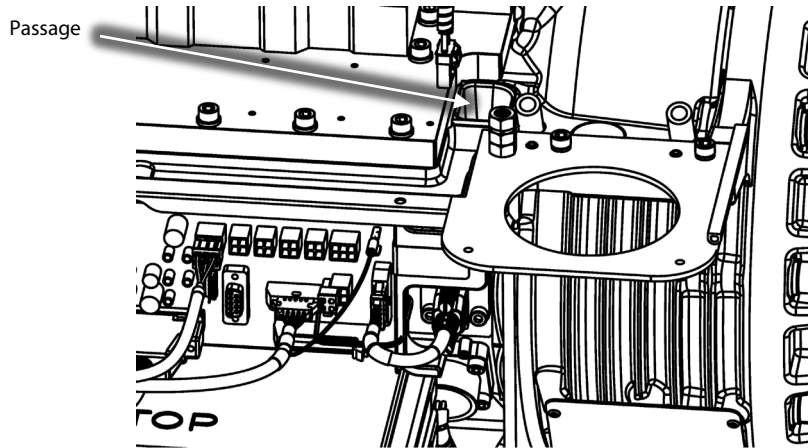
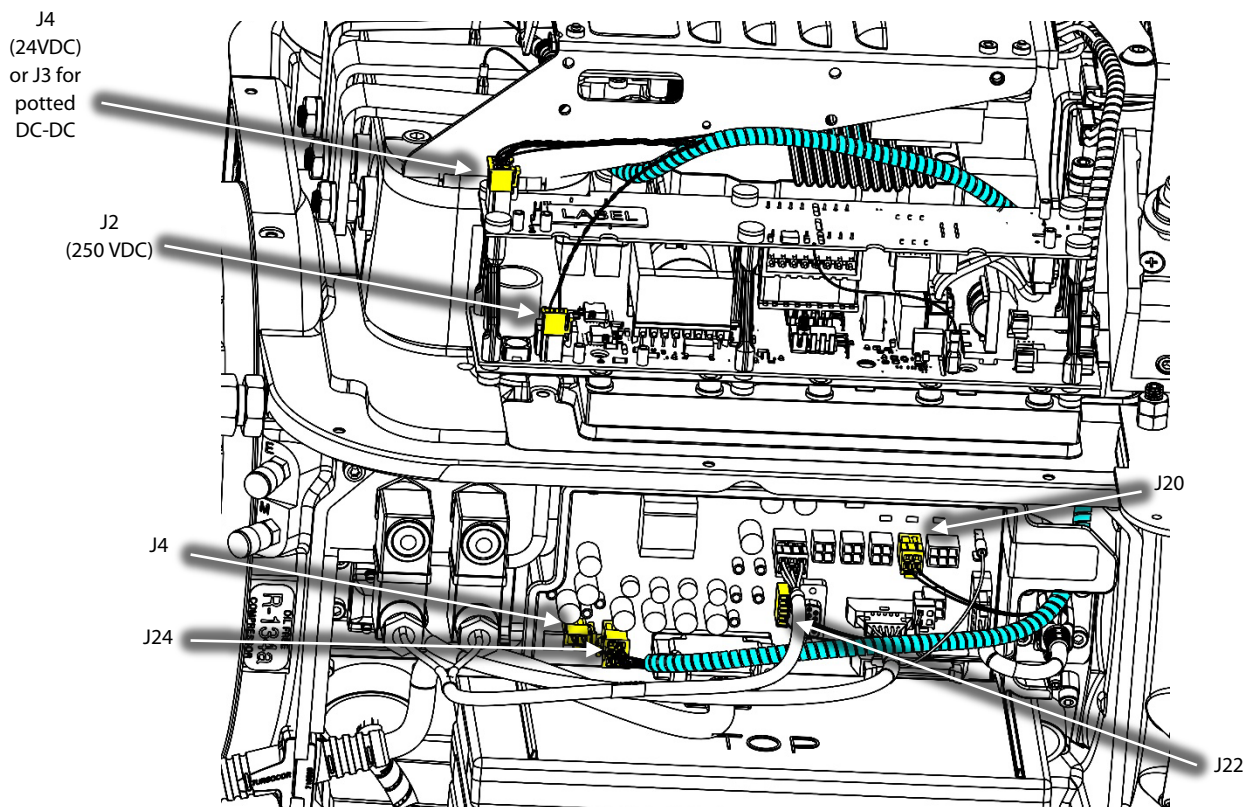

Figure 7 – Cable Passage
Figure 8 – DC-DC Cable Installed onto Backplane
1. Install the new Cable Harness by first feeding the service side portion down the compressor passage from the top. Connect J4, J20, and J24 to the backplane and J22 if using kit 100323-2. Refer to Figure 7 (Cable Passage) and Figure 8 (DC-DC Cable Installed onto Backplane).